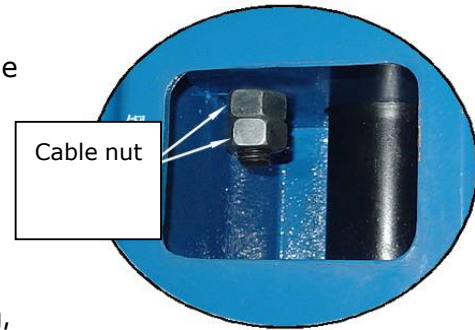

Fig. 45
1. Adjust synchronous cable (See Fig. 45)